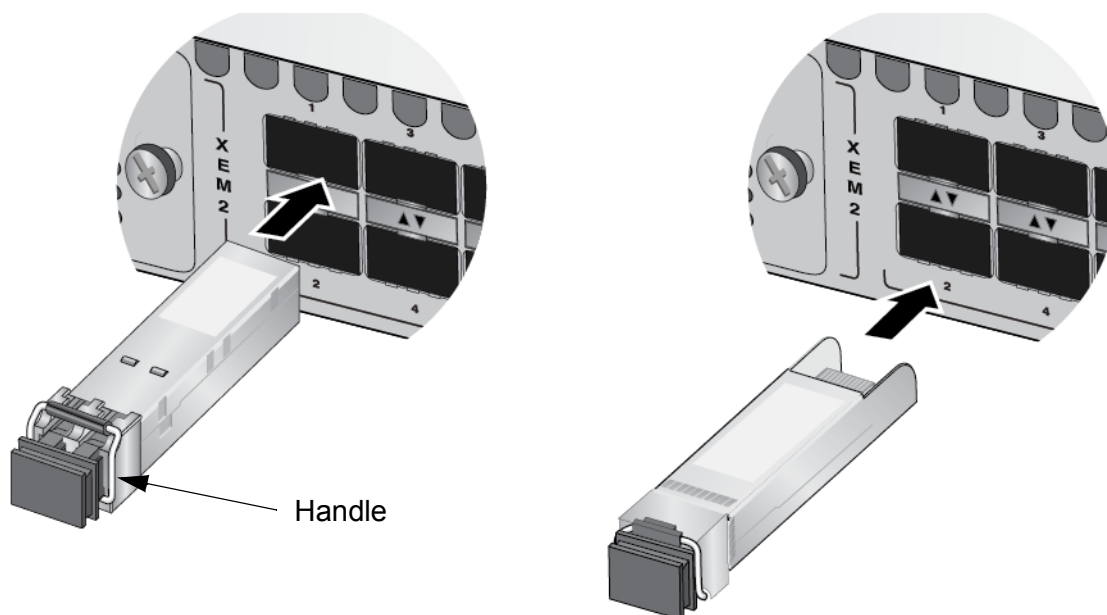

Figure 129. Installing an SFP or SFP+ Transceiver
- To install a transceiver in an odd numbered port, position it with its handle on top. To install a transceiver in an even numbered port, position it with its handle on the bottom. Refer to Figure 129 on page 232.